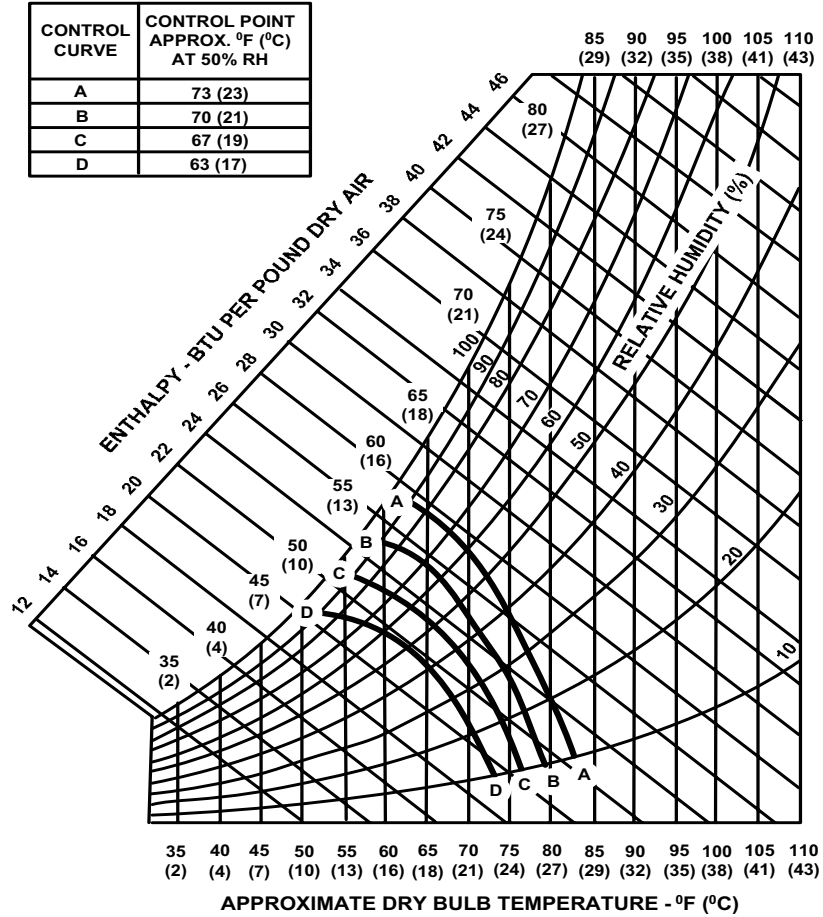

FIGURE 4 - ENTHALPY SETPOINT ADJUSTMENT
The enthalpy setpoint may now be set by selecting the desired setpoint shown in the Enthalpy Setpoint Adjustment Figure 4. Adjust as follows:
- For a single enthalpy operation carefully turn the setpoint adjusting screw (found on the damper control module) to the “A”, “B”, “C” or “D” setting corresponding to the lettered curve of the Enthalpy Setpoint Adjustment Figure 4.